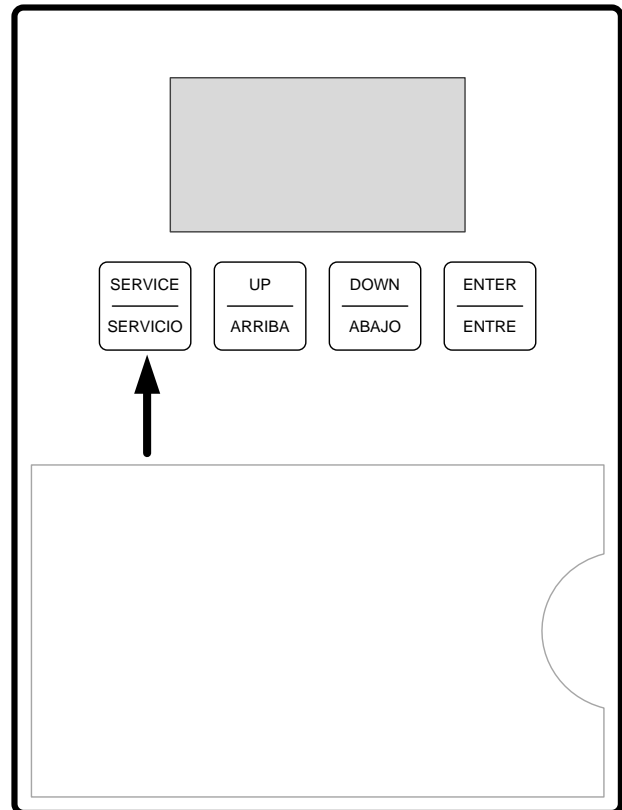

Figure 5
- ◆ To test the Profile 500 unit, the installer must press the **SERVICE** button located on the front of the P500 controller as shown in Figure 5.